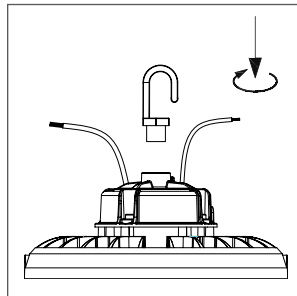

FIGURE 3
- A) Secure hook to fixture, twisting to lock hook in place. (FIGURE 3)